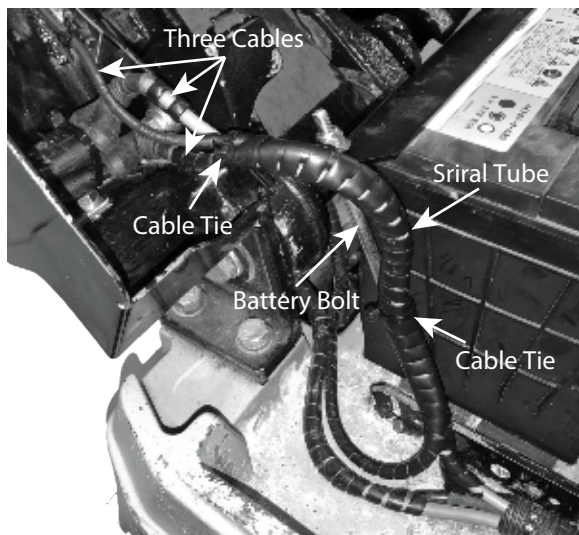

Figure 51. Secure Three Cables
8. Secure the three cables with cable ties and wrap the additional spiral tube (P/N 959021813) around them. See Figure 51.